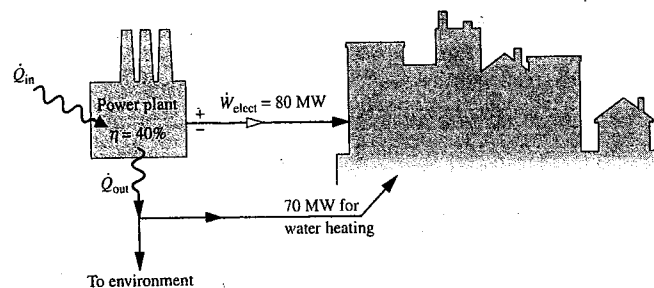

Fig. P2.84
**2.84** Shown in Fig. P2.84 is a *cogeneration* power plant operating in a thermodynamic cycle at steady state. The plant provides electricity to a community at a rate of 80 MW. The energy discharged from the power plant by heat transfer is denoted on the figure by  $\dot{Q}_{\text{out}}$ . Of this, 70 MW is provided to the community for water heating and the remainder is discarded to the environment without use. The electricity is valued at  $\$0.08$  per  $\text{kW} \cdot \text{h}$ . If the cycle thermal efficiency is 40%, determine the (a) rate energy is added by heat transfer,  $\dot{Q}_{\text{in}}$ , in MW, (b) rate energy is discarded to the environment, in MW, and (c) value of the electricity generated, in  $\$$  per year.